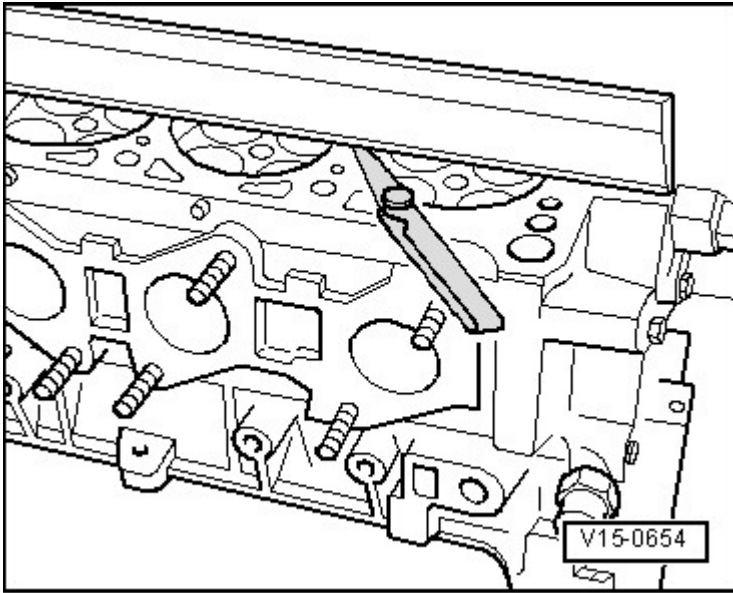

Fig. 13: Checking Cylinder Head For Distortion
- Check for distortion, refer to **Fig. 13**